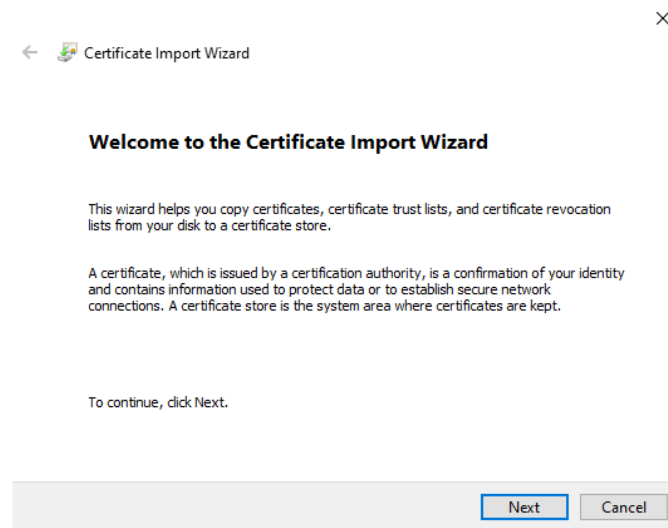

Figure 74: Certificate Import Wizard Start
4. The Certificate Import Wizard starts (Figure 74). Click **Next**.